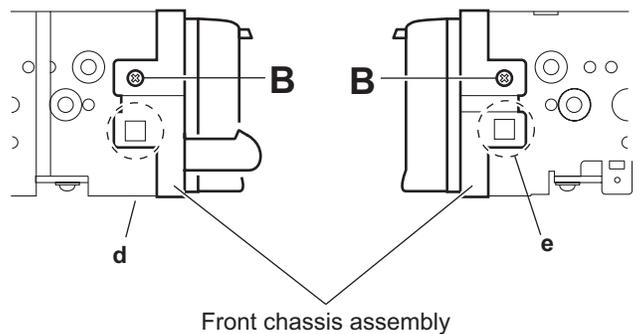

Fig.4
- (2) Remove the two screws **B** on the both sides of the main body. (See Fig.4)
- (3) Release the joints **d** and joints **e** on the both sides of the main body, and then remove the front chassis assembly toward the front. (See Fig.4)